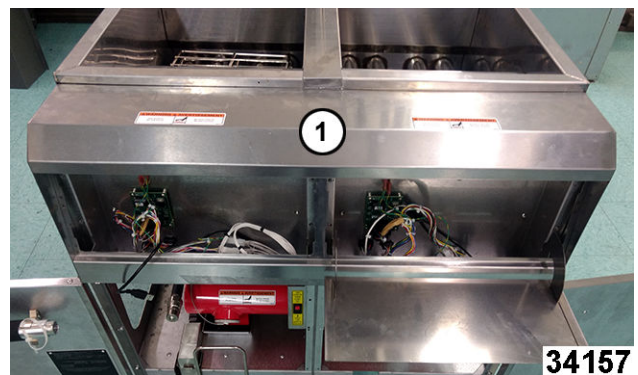
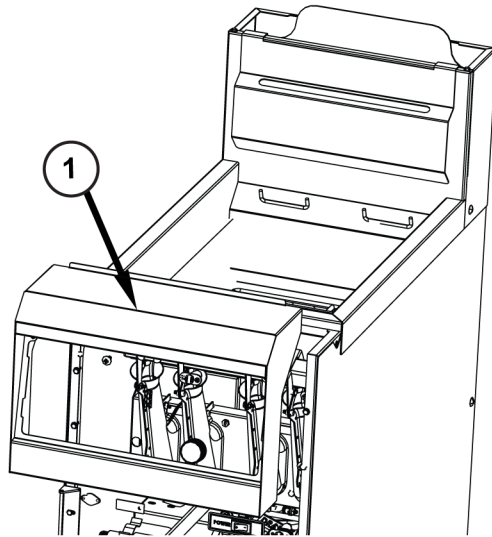

Fig. 34
Fig. 35
6. Lift up and out to remove bullnose (1, Fig. 34 and Fig. 35).